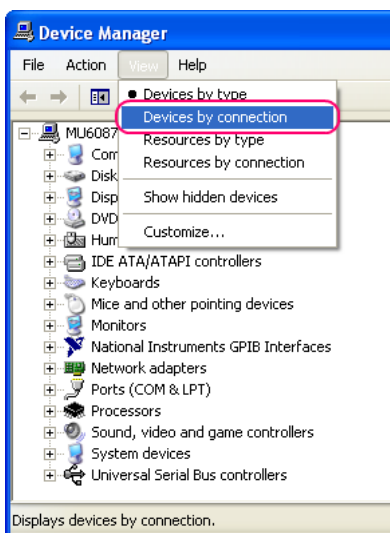

Fig. 1-10 Changing the view in Device Manager
2. Start the Device Manager and change the view by selecting **View - Devices by connection** (Fig. 1-10).